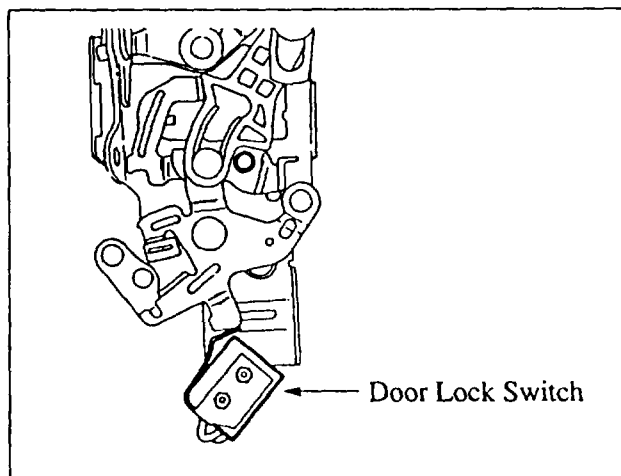

Figure 1: Power Door Lock Switch
2. If necessary, replace the driver's door lock switch. See Workshop Manual for replacement procedures. **Figure 1.**